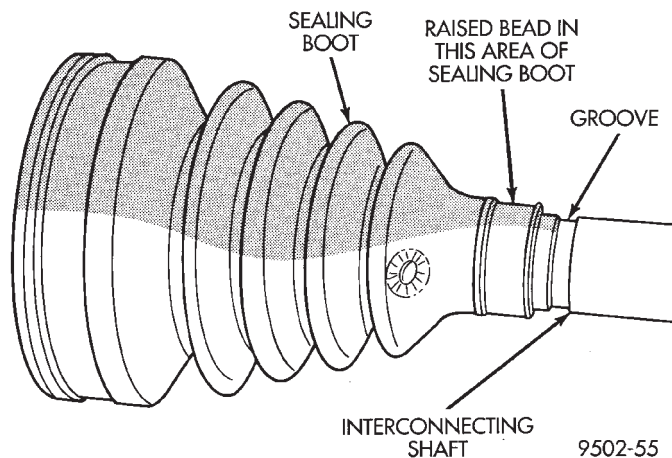

Fig. 30 Sealing Boot Installation on Interconnecting Shaft
(1) Slide inner tripod joint seal boot retaining clamp, onto interconnecting shaft. Then, slide the replacement inner tripod joint sealing boot onto the interconnecting shaft. **Inner tripod joint seal boot MUST be positioned on interconnecting shaft, so the raised bead on the inside of the seal boot is in groove on interconnecting shaft (Fig. 30).**